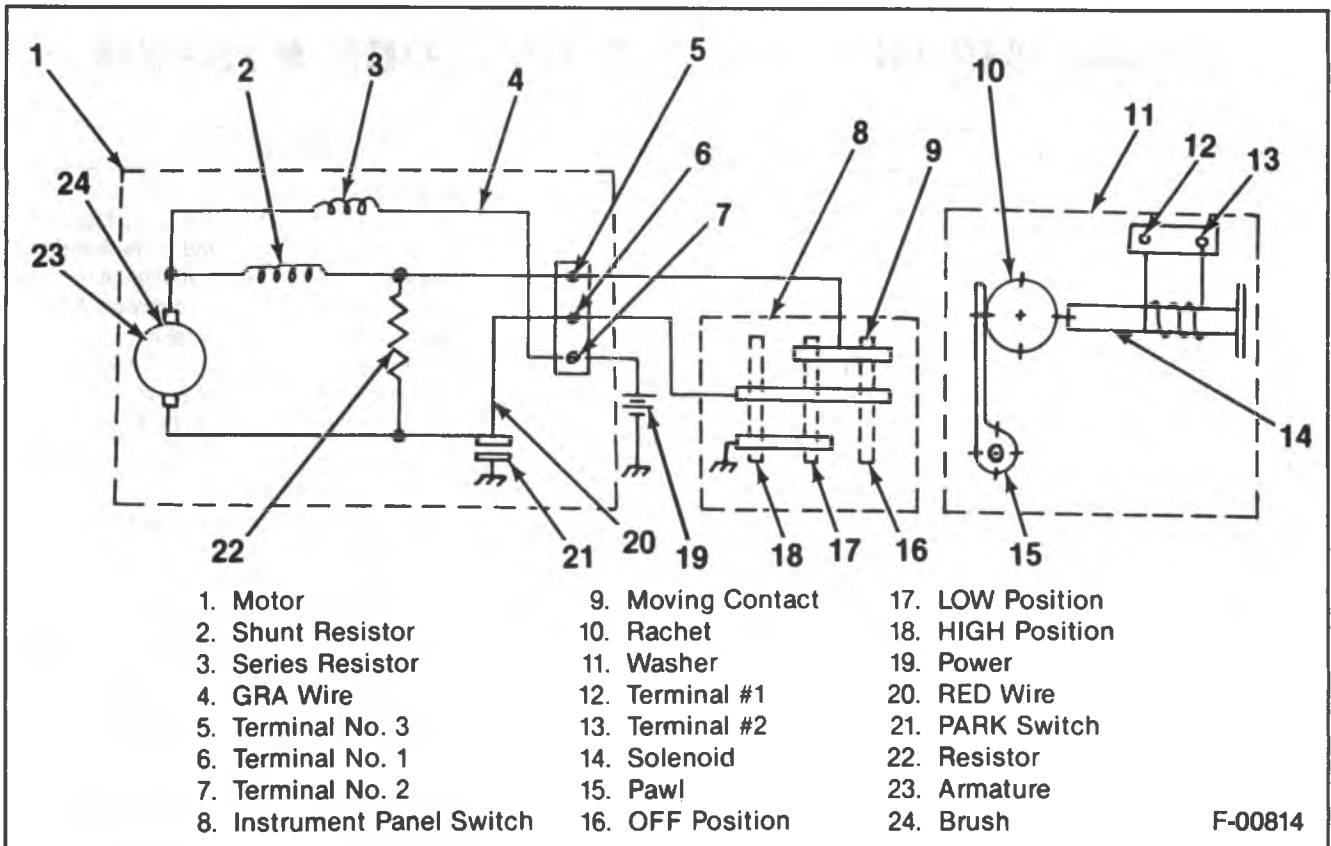

Figure 31 — P-Model Wiper Diagram
The washer motor is located in the bottom of the windshield washer fluid reservoir. The washer is controlled by a washer switch, which is located on the turn signal and multi-function lever. Two wires go to the washer. The white wire is power coming from the fuse box. The same fuse that protects the washer motor also protects the wiper motor. The pink wire is the ground circuit that goes through the washer switch to ground. Refer to figures 31 and 32.
Turning the wiper switch to the LO speed position completes the circuits from the wiper terminals 1 and 3 to ground (figure 31). Current then flows from the battery via wiper terminal No. 2 through the series field and divides; (1) part of the current passes through the armature to ground via wiper terminal No. 1 to the wiper switch and (2) the second part passes through the shunt field to ground